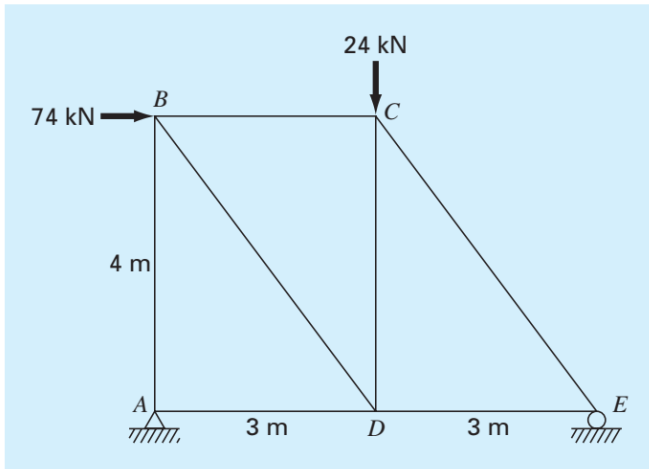

FIGURE P9.15
9.15 A truss is loaded as shown in Fig. P9.15. Using the following set of equations, solve for the 10 unknowns, AB , BC , AD , BD , CD , DE , CE , A_x , A_y , and E_y .